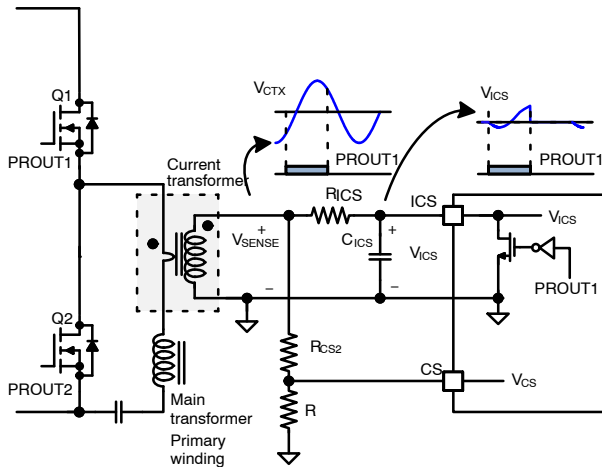
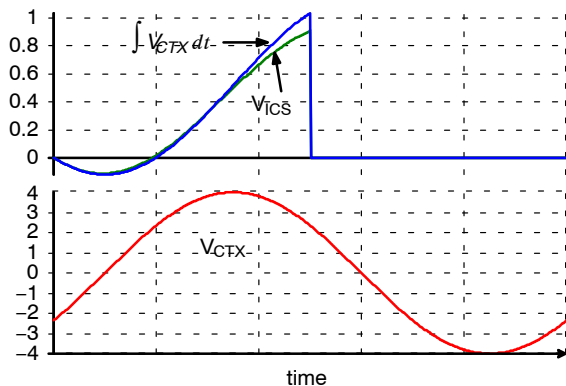
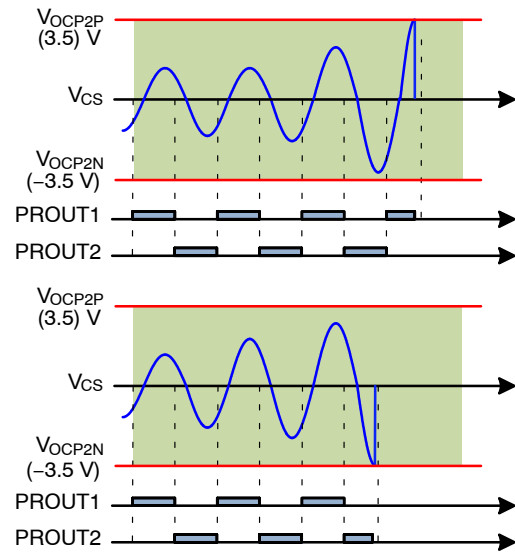

Figure 61. Current Sensing of FAN7688
Figure 62. Generating the Integral Signal ( $V_{ICS}$ ) from  $V_{SENSE}$
Figure 66. Over-Current Protection of the CS Pin
FAN7688 senses instantaneous switch current and the integral of the switch current as illustrated in Figure 61. Since FAN7688 is located in the secondary side, it is typical to use a current transformer for sensing the primary side current. While the PROUT1 is LOW, the ICS pin is clamped at 0 V with an internal reset MOSFET. Conversely, while PROUT1 is high, the ICS pin is not clamped and the integral capacitor ( $C_{ICS}$ ) is charged and discharged by the voltage difference between the sensing resistor voltage ( $V_{SENSE}$ ) and the ICS pin voltage. During normal operation, the voltage of the ICS pin is below 1.2 V since the power limit threshold is 1.2 V. The current sensing resistor and current transformer turns ratio should be designed such that the voltage across the current sensing resistor ( $V_{SENSE}$ ) is greater than 4 V at the full load condition. Therefore the current charging and discharging  $C_{ICS}$  should be almost proportional to the voltage across the current sensing resistor ( $V_{SENSE}$ ). Figure 62 compares the  $V_{ICS}$  signal and the ideal integral signal when the amplitude of  $V_{SENSE}$  is 4 V. As can be seen, there is about 10% error in the  $V_{ICS}$  signal compared to the ideal integral signal, which is acceptable for most designs. If more accuracy of the  $V_{ICS}$  is required, the amplitude of  $V_{SENSE}$  should be increased.
6. Over-Current Protection (OCP2): When  $V_{CS}$  is higher than 3.5 V or lower than -3.5 V, over-current protection (OCP) is triggered. The instantaneous primary side current is also sensed on CS pin. Since the OCP thresholds on the CS pin are 3.5 V and -3.5 V as shown in Figure 66, the CS signal is typically obtained from  $V_{SENSE}$  by using a voltage divider as illustrated in Figure 61. 150 ns debounce time is added for OCP.